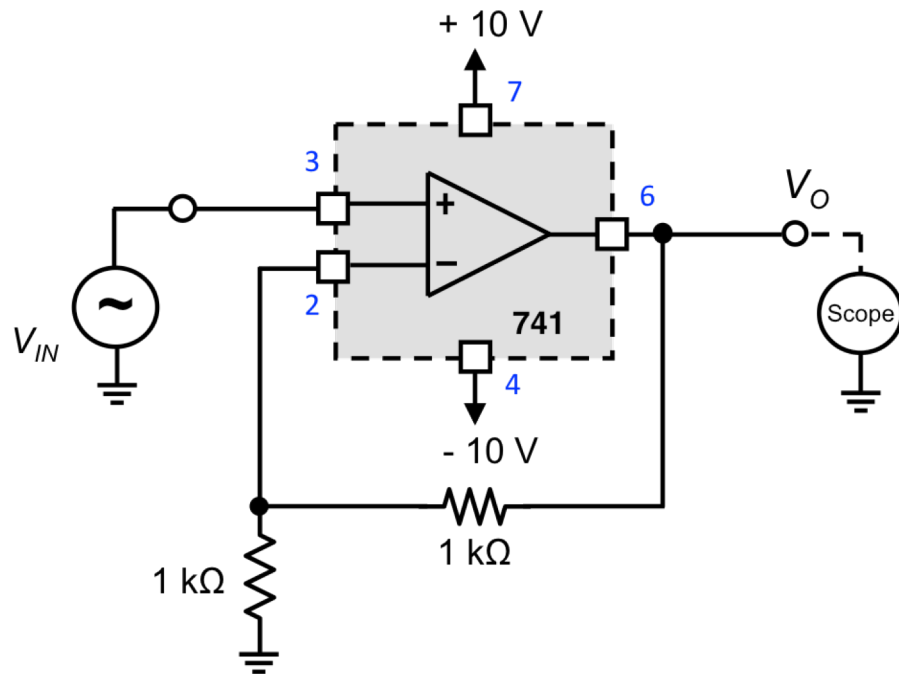

Fig. 5: Noninverting Amplifier
(3) **Noninverting Amplifier** (Fig. 5): Apply the same signal as in part 1 to the input of the noninverting amplifier shown in Fig. 5. *What is the signal at its output? What is the signal at the inverting input terminal to the op-amp? What is the gain of the amplifier? Be precise. If the input signal amplitude is increased what happens at the output of the amplifier? What happens with a square-wave input with a 1 V_{pp} amplitude? Change the circuit so that it realizes a gain of 10 V/V and show that it operates correctly.*